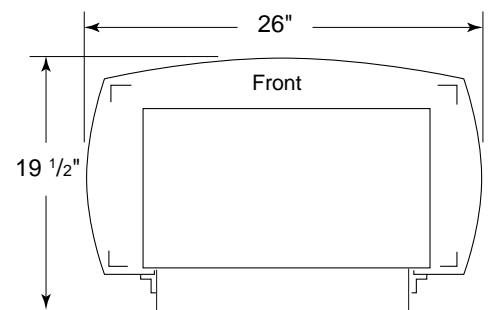

Figure 5 - Freestanding Stove with Burner System Bottom Dimensions
4. This stove is a freestanding unit designed to set directly on the floor. If your stove is to be installed directly on carpeting, vinyl tile, or any combustible material other than wood, it must be installed on a metal or wood panel extending the full width and depth of the stove. See Figure 5.